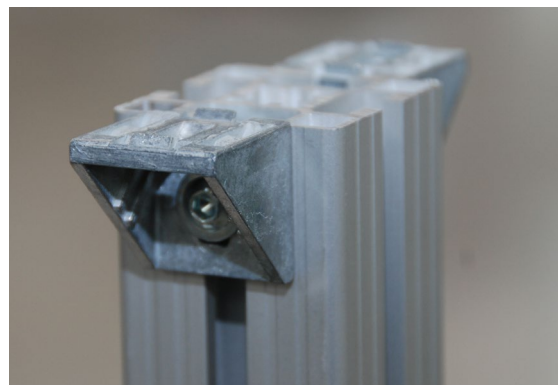

fig. 3.1-22
930 mm | 36.61 inch from the inner edge of the side supports to the middle of the screws the profile angles will be screwed on with. Attach two (2) profile angles **A2e** to the long and the short frame profiles again (**fig. 3.1-22 and fig. 3.1-23**). Afterwards tighten the profile connectors of the long frame profile **A2c** with a corresponding Allen key (ca. 25Nm).